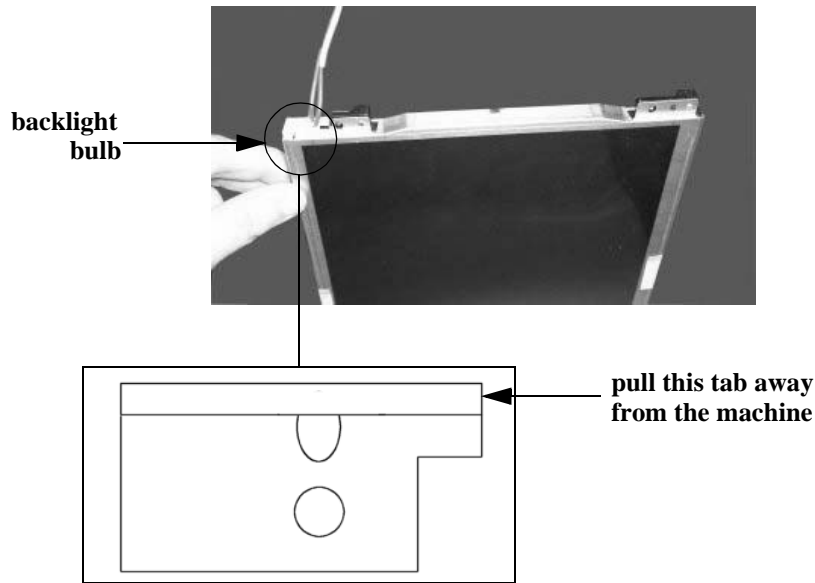

Figure 5 Removing the Backlight Bulb
1. Locate the backlight bulb on the side of the display unit. See *Figure 5*.
2. While pulling outward on the tab shown in *Figure 5*, gently pull the backlight bulb cable to remove the bulb.